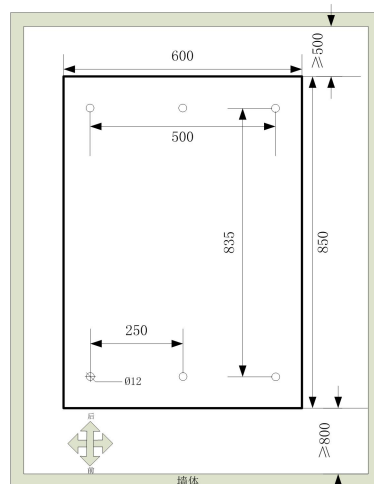

Fig. 3-4 Hole size of 120 kVA
**Step 1:** Determine the installation position and mark the positioning on the installation surface according to the hole location size diagram. The size diagram of 60 kVA UPS is same as the diagram of 120 kVA UPS, take 120 kVA UPS as an example shown in Fig. 3-4.